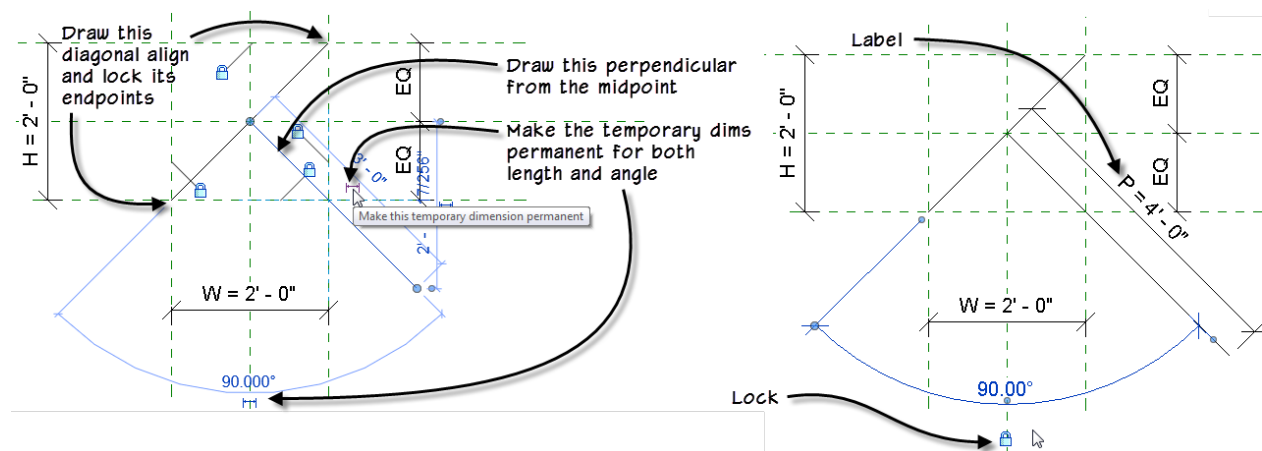

Figure 37—Build the rig in a Detail Item family
8. Select the line and then click the small "Make this temporary dimension permanent" icon for both the length and angle dimensions (see the left side of Figure 37).
9. Select the new linear dimension and label it with the parameter called **P**. Lock the angle dimension (see the right side of Figure 37).